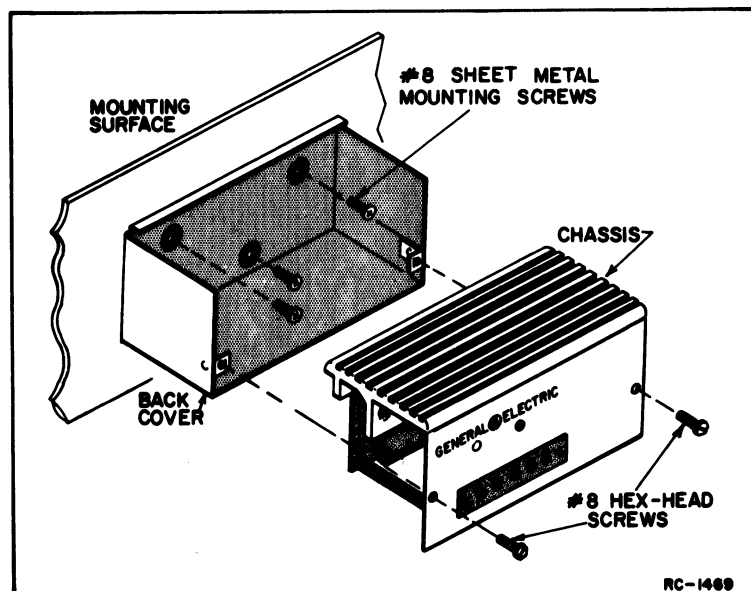

Figure 2 - Mounting the Converter
1. Remove the two hex-head screws in the front panel and slide off the back cover (Figure 2).